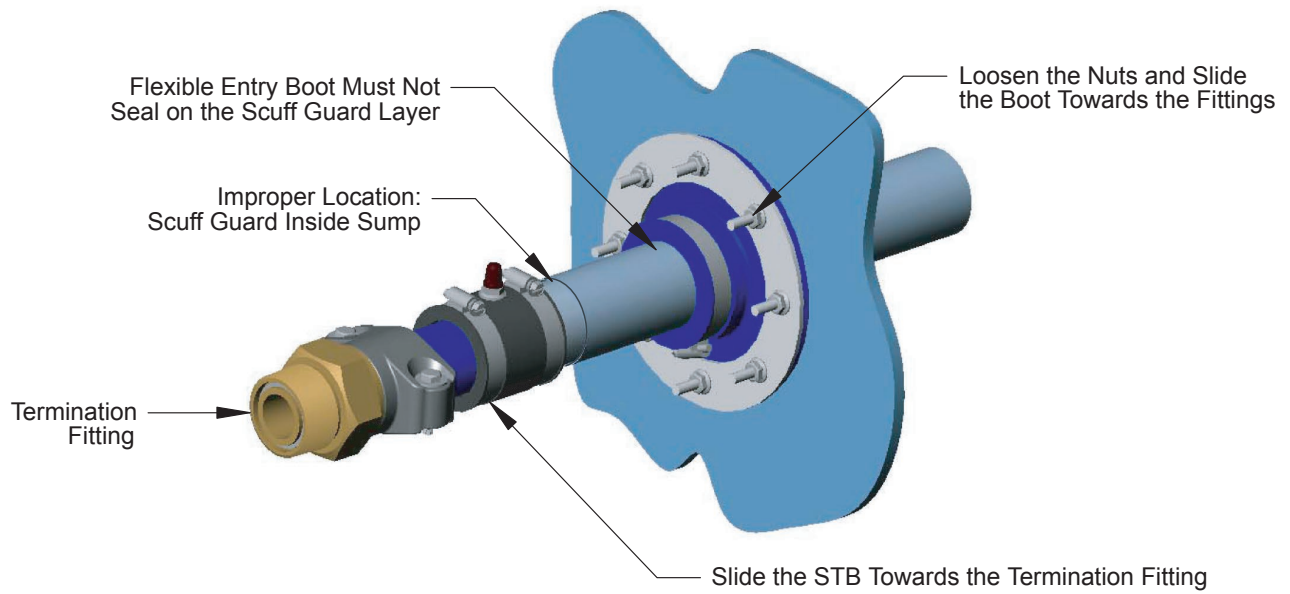

Figure 1 - Improper Scuff Guard Cutback
APT has manufactured direct bury (D) and secondary contained (SC) piping for the petroleum industry since 1992. Since 2001, APT has manufactured all sizes of our SC pipe with a transport layer called the scuff guard layer (see Figure 1). When installing SC pipe, properly cutting back the layers, including the scuff guard layer, is critical to system integrity. The scuff guard layer should be cut back so that it is even to, or just outside of, the sump wall penetration — typically about 9" within dispenser sumps, but it can be more in tank sumps. Properly cutting back the scuff guard layer ensures that entry boots and test boots can seal to the piping jackets.
1. Loosen the band clamps on the STB (Secondary Test Boot) and slide the STB back to the termination fitting. (Figure 1)
3. Using a 7/16" socket, remove each of the nuts from the backer plate/stud assembly. (Figure 1)